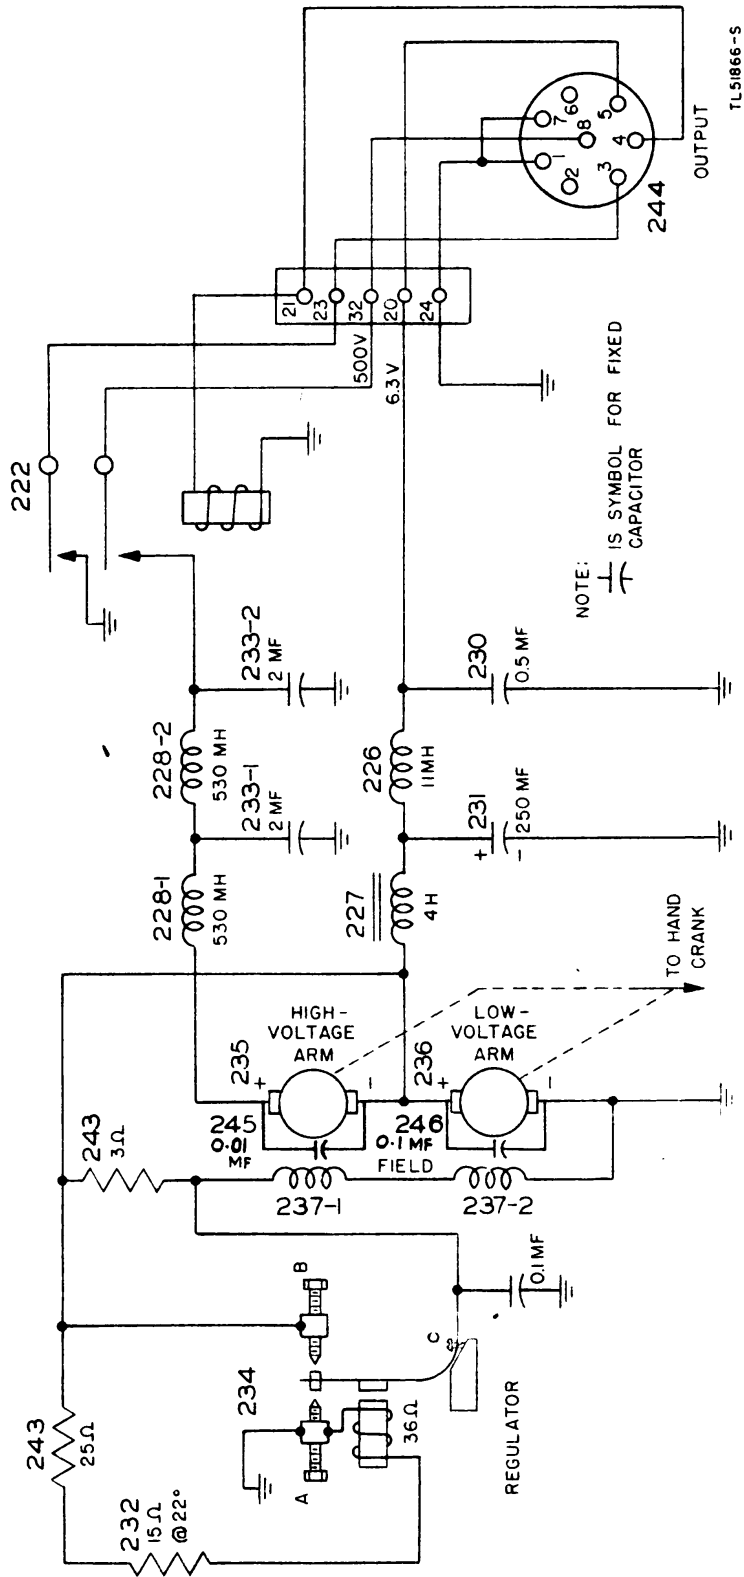

Figure 42. Hand Generator G-4/TRC-10, schematic diagram.
a. The generator consists of an armature having two independent windings connected in series (fig. 42). The low-voltage winding provides 6 volts direct current, and the high-voltage winding provides approximately 500 volts direct current. The armature rotates between the two field coils shown in the circuit diagram. The field coils are in series with a 3-ohm resistor and are connected across the low-voltage armature.
(1) When the armature is rotated the low-voltage output operates the regulator relay pulling the vibrator reed over against the ground contact, thereby short circuiting the generator field.
(2) With the field short-circuited, the generator output voltage drops, thereby releasing the vibrator which springs back against the opposite contact. In this position the 3-ohm resistor in the generator field circuit is shorted, thereby increasing the field current and consequently the output voltage.
(3) In operation the above sequence is repeated so rapidly that the field voltage never actually falls to zero but is regulated at a value between zero and the value obtained with the 3-ohm resistor shorted. If the low-voltage output increases, the vibrator reed is pulled harder against the ground contact, thereby reducing the field voltage, and consequently the output voltage. If the low-voltage output decreases, the reverse is true.
(4) The tension of the vibrator spring is adjusted by screw C (fig. 42) to obtain the required output voltage. Since both the high- and low-voltage armature windings revolve in the same field, controlling the voltage on the low-voltage commutator also maintains the voltage constant on the high-voltage commutator.
(5) The 25-ohm resistor in series with the regulator coil establishes the approximate operating point of the voltage regulator. The 15-ohm series resistor is a temperature compensating resistor to offset the effect of temperature on the resistance of the regulator coil. The 0.1-mf capacitor is connected from the vibrator to ground to absorb the spark at the regulator contacts and to suppress part of the r-f interference produced by the spark.
c. The high-voltage output is filtered by two 2-mf capacitors connected to ground, and r-f interference from the commutator is removed by the combination of 350-mh (millihenry) chokes and 2-mf capacitors. The filtered output voltage is applied through a contact of the protective relay (fig. 42) to pin 8 on the power-output connector. The protective relay coil is connected between ground and pin 4 of the output connector and is energized, when the armature is turned, only if the connecting cable to the receiver-transmitter is in place. When in place, pins 4 and 5 are connected at the receiver-transmitter. In this
d. The output of the 6-volt commutator is filtered for ripple by the 4-h choke and 250-mf capacitor (fig. 42), and for r-f interference by the 11-mh choke and 0.5-mf capacitor. The 6-volt filament output is applied through pin 5 to the power cable.